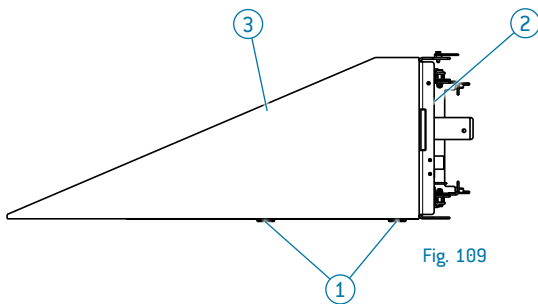

Fig. 109
- The example (see Fig. 109) shows the assembled adapter alignment system for the platform. Item no. 50282839.